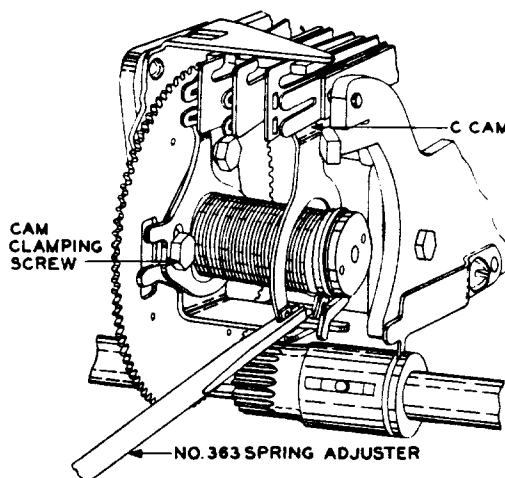

Fig. 25 - Method of Adjusting "C" Cam
(3) Adjust the position of the "C" cam with respect to the armature and C spring finger with the No. 363 spring adjuster, as shown in Fig. 25. Apply the adjuster near the point where the cam spring joins its base. With the cam adjusted, the face of the cam should be approximately parallel to the gear.
(4) If the top edge of the "C" cam is not properly located with respect to the C spring finger, check that the legs supporting the "C" cam are not kinked or bowed. If necessary, straighten them using the No. 485A pliers taking care to maintain the adjustment made in (3). If the condition is not corrected by adjusting in this manner, replace the timer.